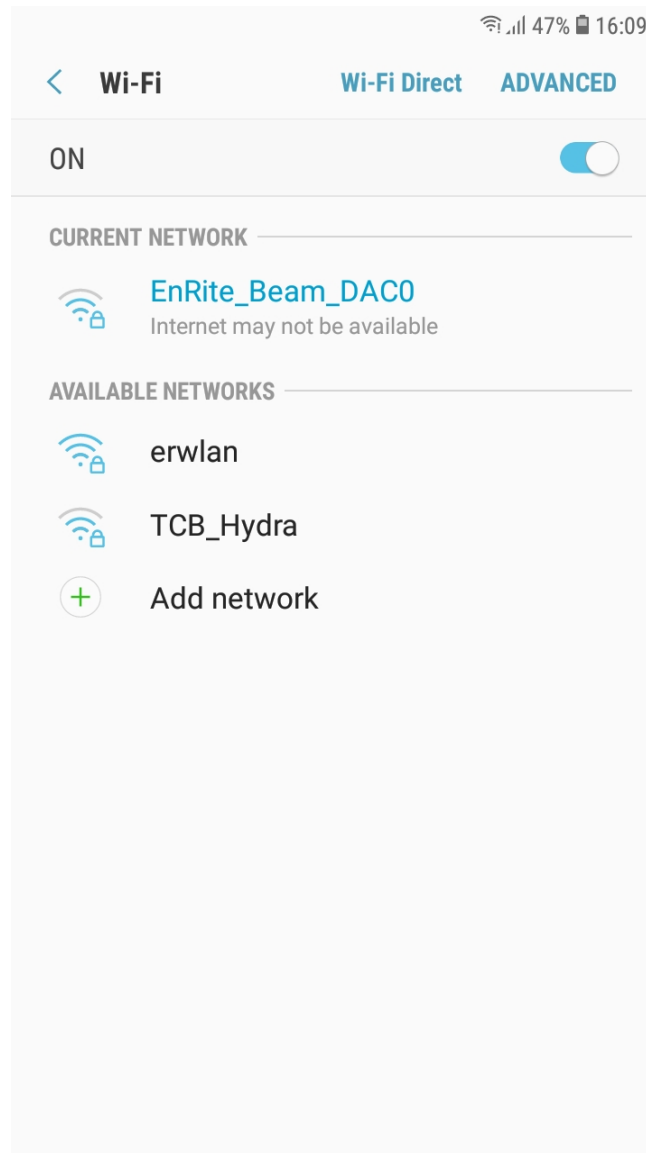

Figure 3-40
- 1 Connect the Android phone to the EnRite_Beam_DAC0 Wi-Fi network as shown in figure 3-40.